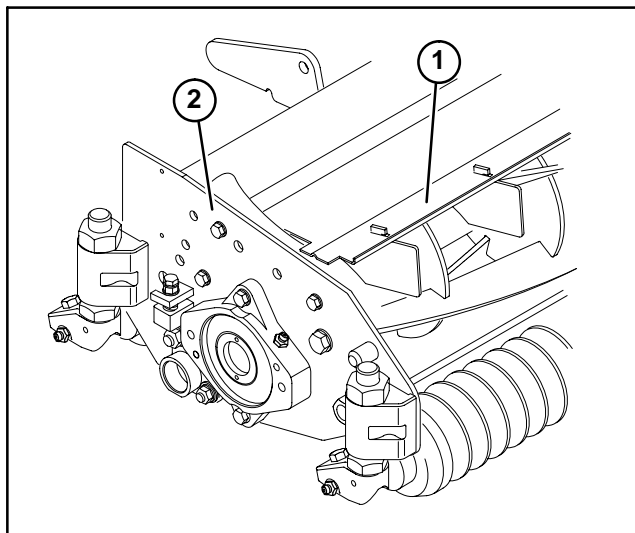

Figure 20
2. Loosen flange head capscrew (Fig. 20) securing shield to left side plate, move shield to desired angle and tighten screw.